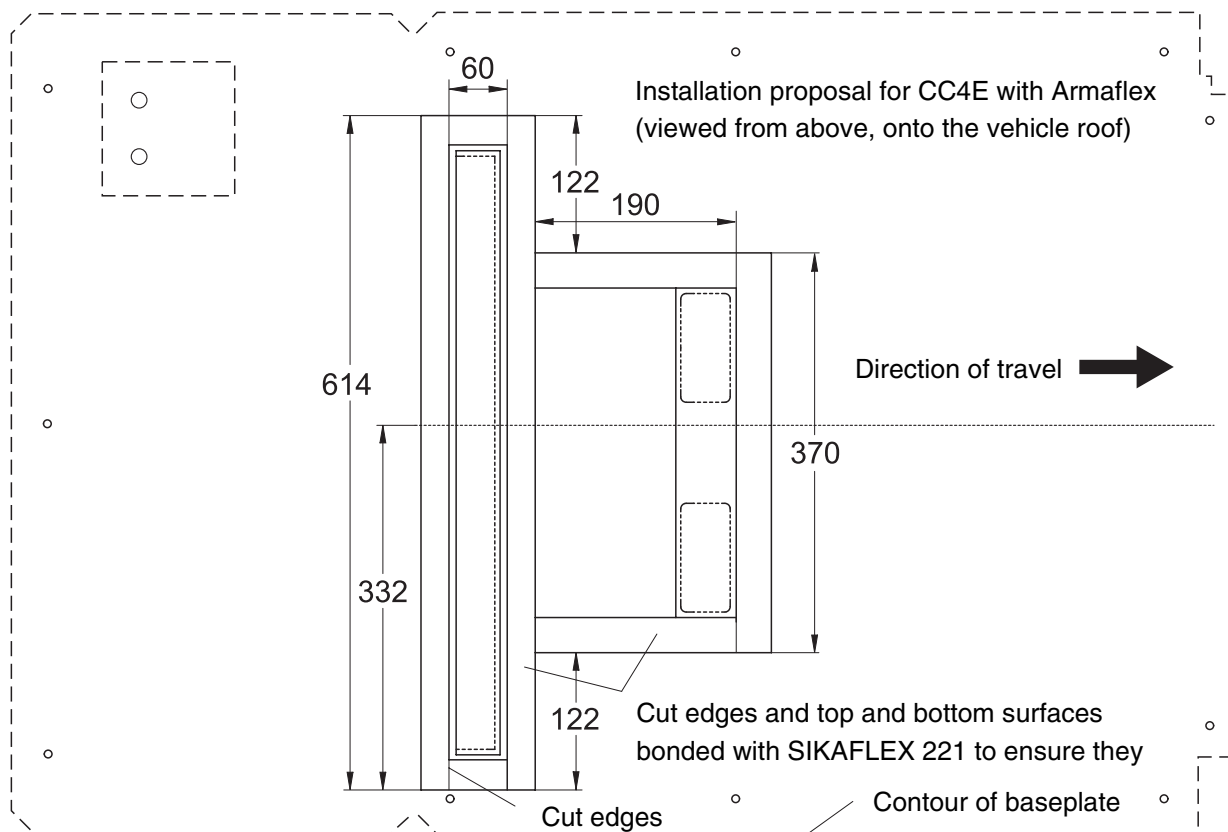

Fig. 4.3
On cambered roofs or roofs with beads and gutters, a sealing frame must be produced using the sealing profiles provided (see Fig. 4.3).
- c) Affix the sealing profile to the roof with the Sikaflex 221 included in the installation kit as shown in Fig. 4.3.